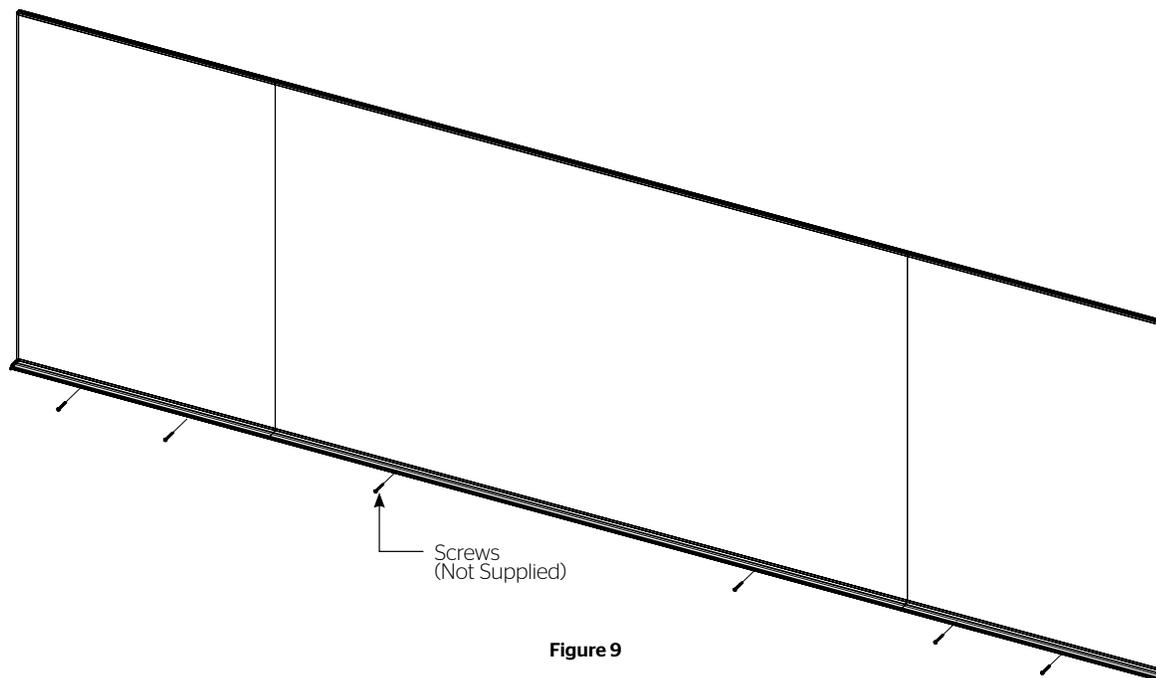

Figure 9
9. To complete your installation, secure the screen to the wall through the holes in the marker trays (Figure 9).